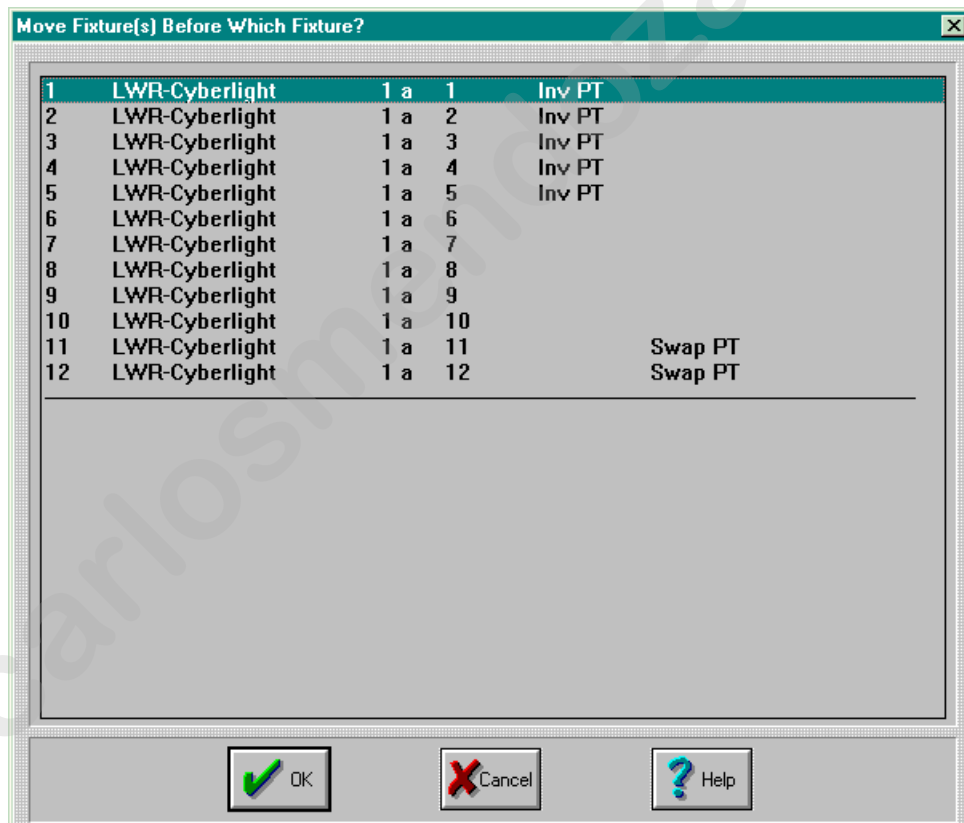

Figure 4.9. Move Fixture(s) Before Which Fixture? Dialogue Box
3. Click the **Move** button. This brings up the **Move Fixture(s) Before Which Fixture?** dialogue box. Refer to Figure 4.9.
4. Select the fixture insertion point. The fixture becomes highlighted. Fixture(s) will be inserted above the insertion point. Refer to Figure 4.9